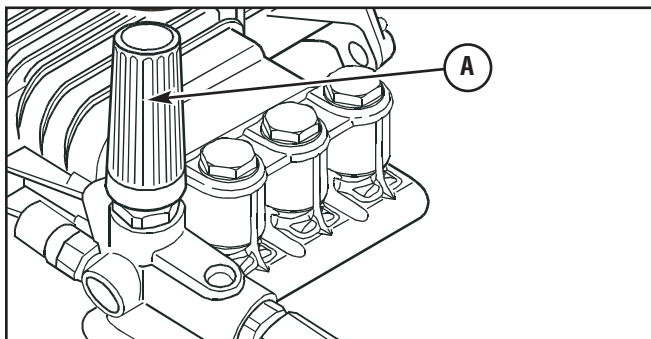

Figure 30— Pressure Control Knob
6. If equipped, increase or decrease spray pressure by turning pressure control knob (A) counterclockwise or clockwise respectively (see Figure 30). Use lower pressure to wash items like cars or boats. Use higher pressure to strip paint and degrease driveways.